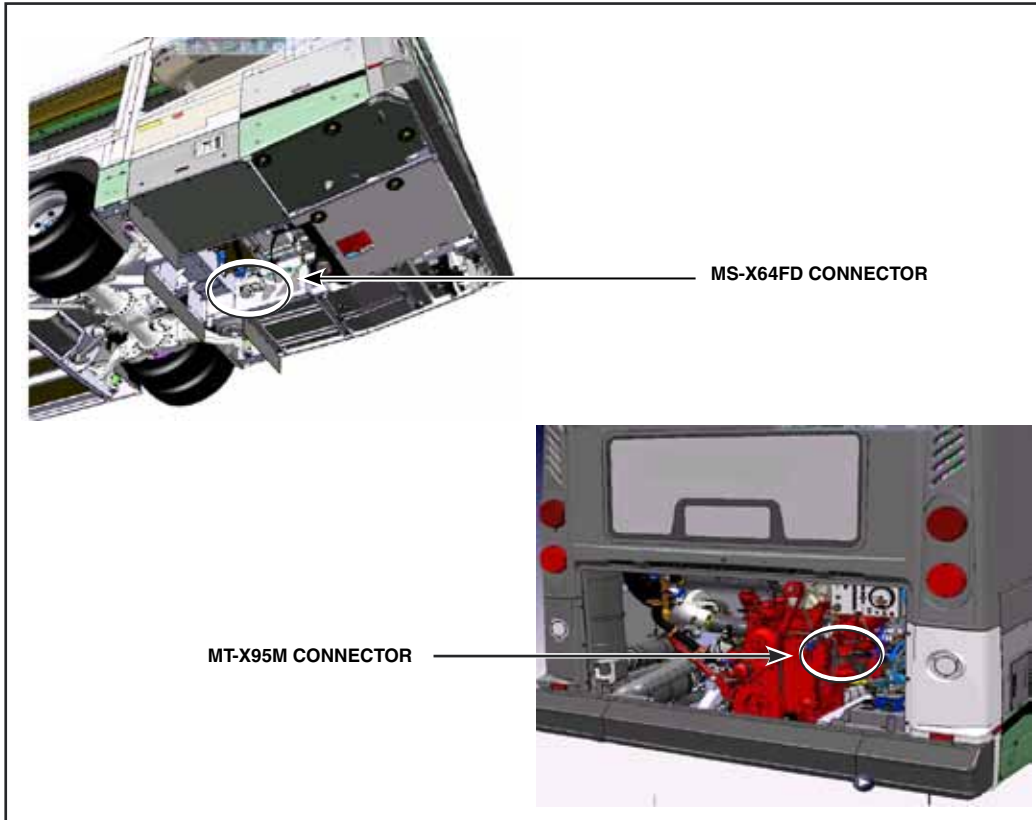

Figure 1 - Connector Locations
2. Locate the two connectors. One on the engine (MT X95M), the other (MS X64FD) in the engine compartment. See Figure 1.